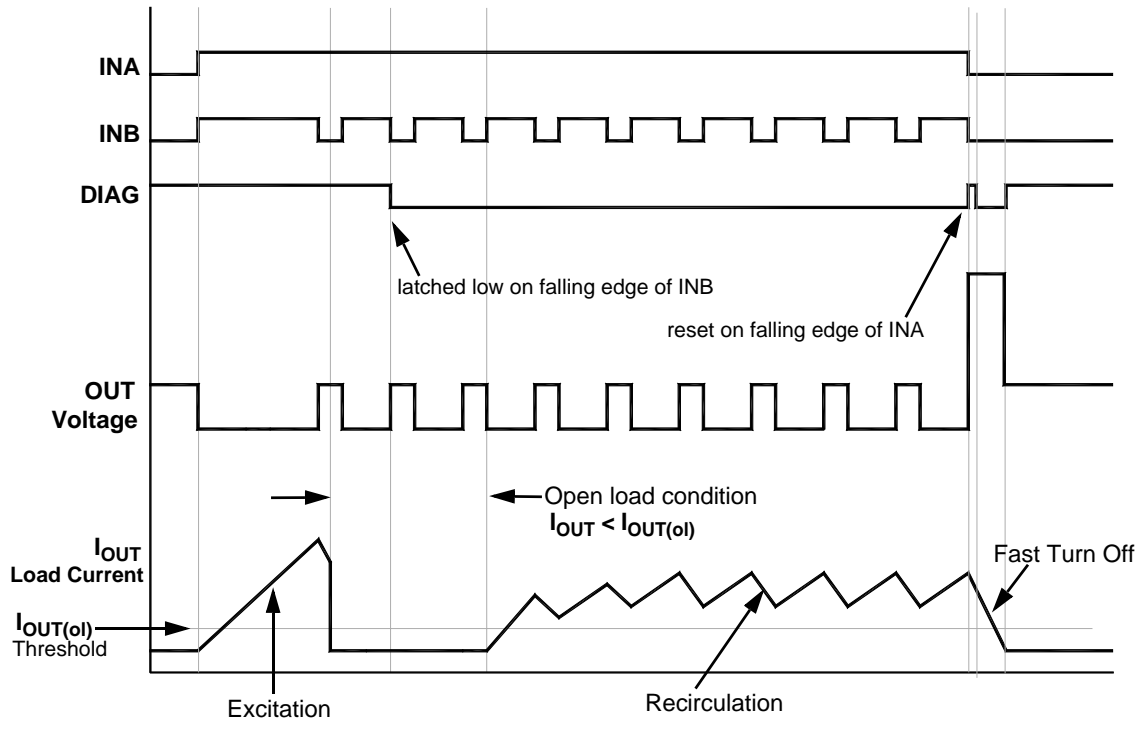

**Figure 3. Thermal Shutdown**
**Thermal Shutdown** (see figure 3) The FDMS2380 is internally protected against over-temperature conditions by a temperature sensing circuit. When the FDMS2380 junction temperature exceeds the protection limit,  $T_{J(ts)}$ , thermal shutdown of the device will occur. Upon entering thermal shutdown a 2  $\mu$ s to 10  $\mu$ s protection fault signal is activated in the DIAG pin. In thermal shutdown, the NDMOS is switched off and the FDMS2380 operates in recirculation to discharge the energy in the load coil and minimize power dissipation. The FDMS2380 will remain in this state until INA is taken to logic 0. A protection fault signal will be issued each time INA is brought to a logic high while the over-temperature conditions exists.